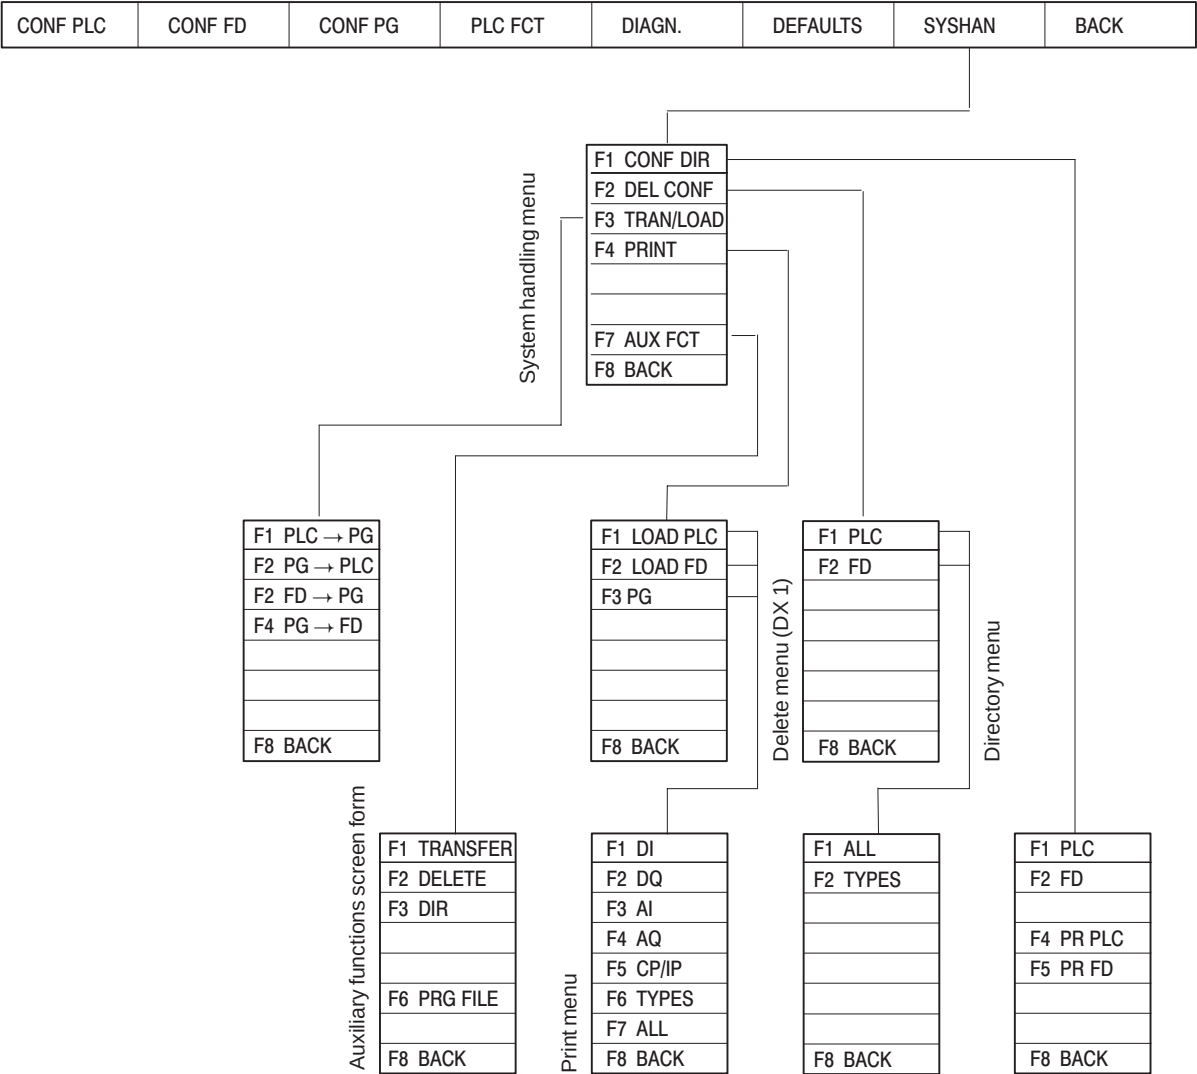

Figure 1-3 COM 155H Screen Form Tree for the S5-155H Programmable Controller (2)
- The Main Menu function <SYSHAN> (system handling = F7) enables the display of the configured external I/O available in system DB1. Following this, selective or complete documentation of the configured data from the programmable controller or from the program file can be generated. In addition, you can initiate deletions in the programmable controller or on diskette (see Figure 1-3).